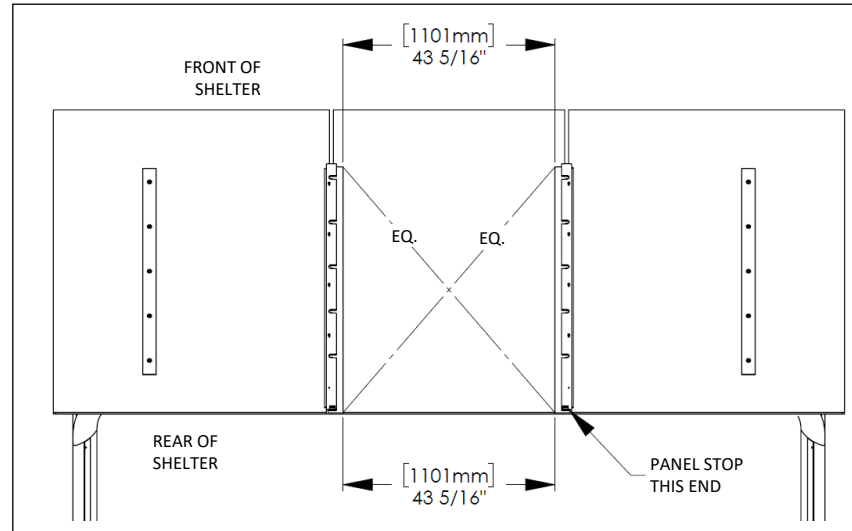

Fig. D5 – detail view of panel install
6. Place C channel extrusions on roof, with open channels facing each other as shown in Fig. D5. Center the pair of extrusions on the roof and then make small adjustments to the width between the inside faces of the extrusions until the dimension is 43-5/16". Install hardware to hold C channel extrusions in place loosely. Adjust position of the C channel until the width between them is 43-5/16" on both ends and the cross diagonal dimensions measure the same. See Fig D5.